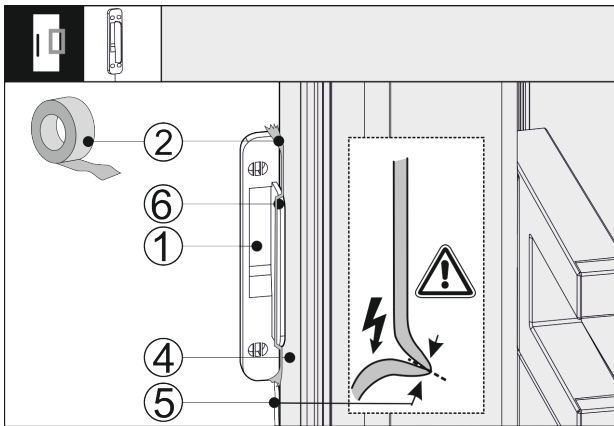

Fig. 42
- ▶ Place the knocking sensor Fig. 42 (1) on the side on the appliance door Fig. 42 (4) so that the limit stop Fig. 42 (6) is touching the appliance door Fig. 42 (4). The sensor cable Fig. 42 (5) is tensioned slightly and is also touching the appliance door Fig. 42 (4).
- ▶ Attach the knocking sensor Fig. 42 (1) with adhesive tape Fig. 42 (2). The knocking sensor is screwed to the unit front at a later point.